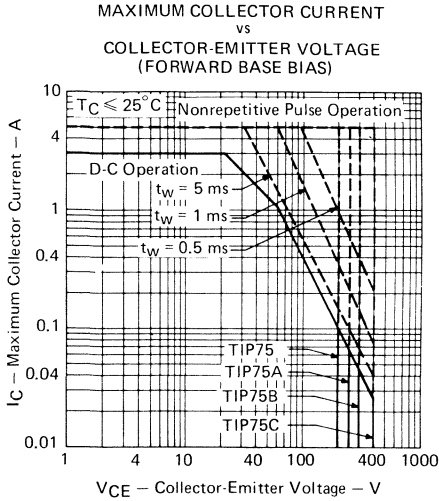

FIGURE 10
4. Derate linearly to 150°C free-air temperature at the rate of 16 mW/°C or refer to Dissipation Derating Curve, Figure 10.